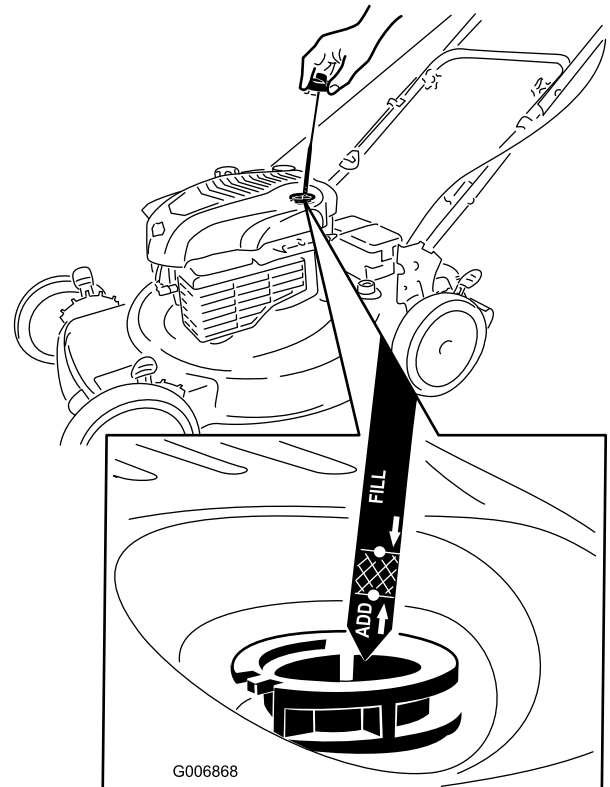

Figure 11
1. Remove the dipstick, wipe it clean, and fully install the dipstick (Figure 11).
2. Remove the dipstick and check the oil level (Figure 11). If the oil level is below the **Add** mark on the dipstick, **slowly** pour oil into the oil fill tube to raise the oil level to the **Full** mark on the dipstick. **Do not overfill.** (Max. fill: 20 oz. (0.59 l), type: SAE 30 detergent oil with an API service classification of SF, SG, SH, SJ, SL, or higher.)